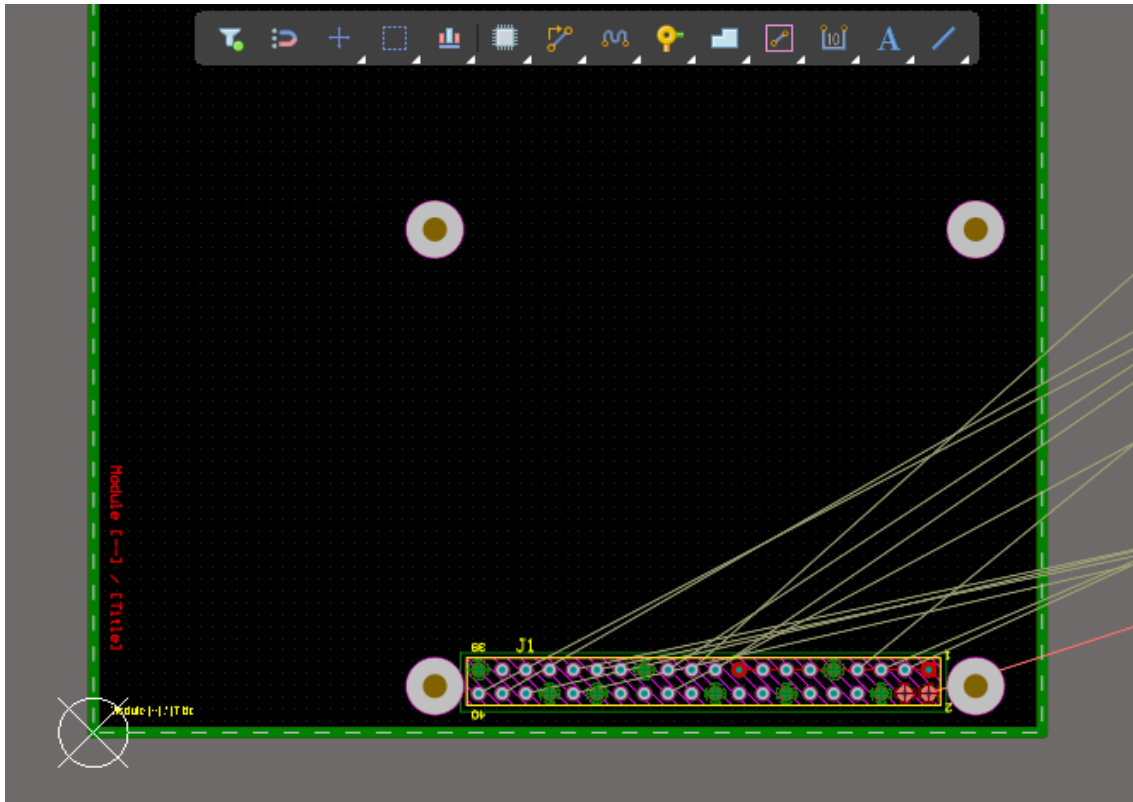

Figure 7. Place J1 within the board area by coordinates
26. At the *Properties* panel add the coordinate x: 3525mil y: 265mil and a rotation of 180° to position the component, as shown in Figure 7.